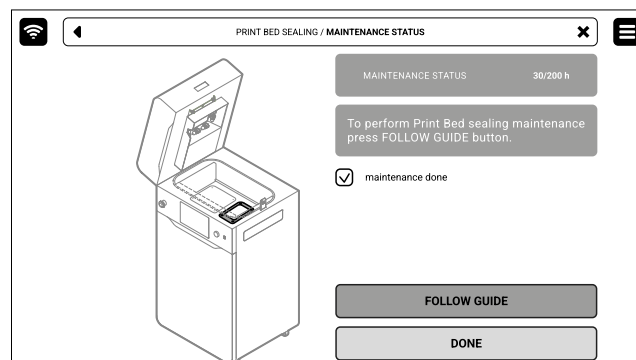

Fig. 13.26 The screen of the maintenance of the Print Bed sealing.
3. In this case, mark **MAINTENANCE DONE** once you have completed the procedure, and then the **DONE** button. The timer will reset to zero (fig. 13.26).